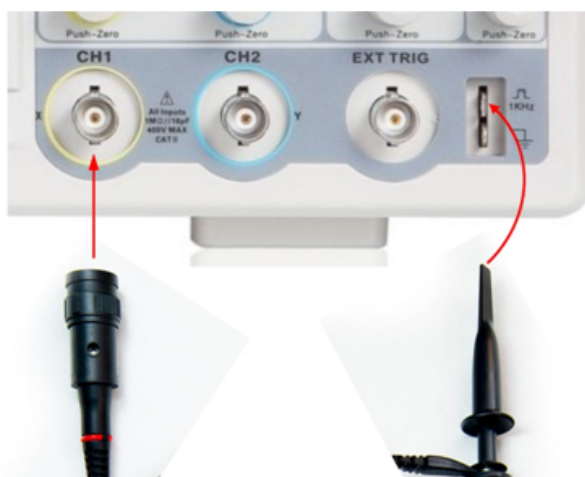

Figure 1
1. First to acquire waveform on the screen connect probe's BNC connector (A) to the CH1 input and probe's hook (B) to the 1 KHz square wave output pin. Then press the [Auto] button, oscilloscope will acquire the waveform automatically (Fig.1).